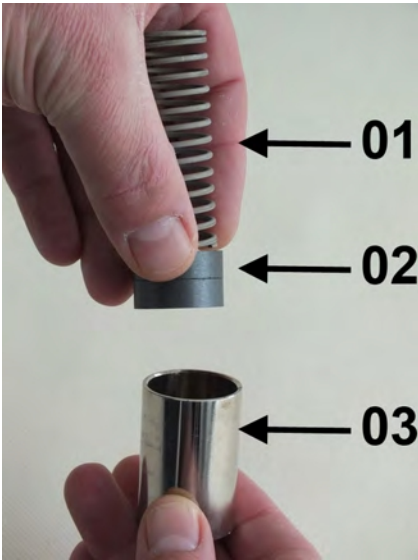

Fig. 42: inner parts
- Insert the spring (Fig. 42/01) and magnets (Fig. 42/02) into the float (Fig. 42/03), ensuring correct polarity (north pole toward device outlet).